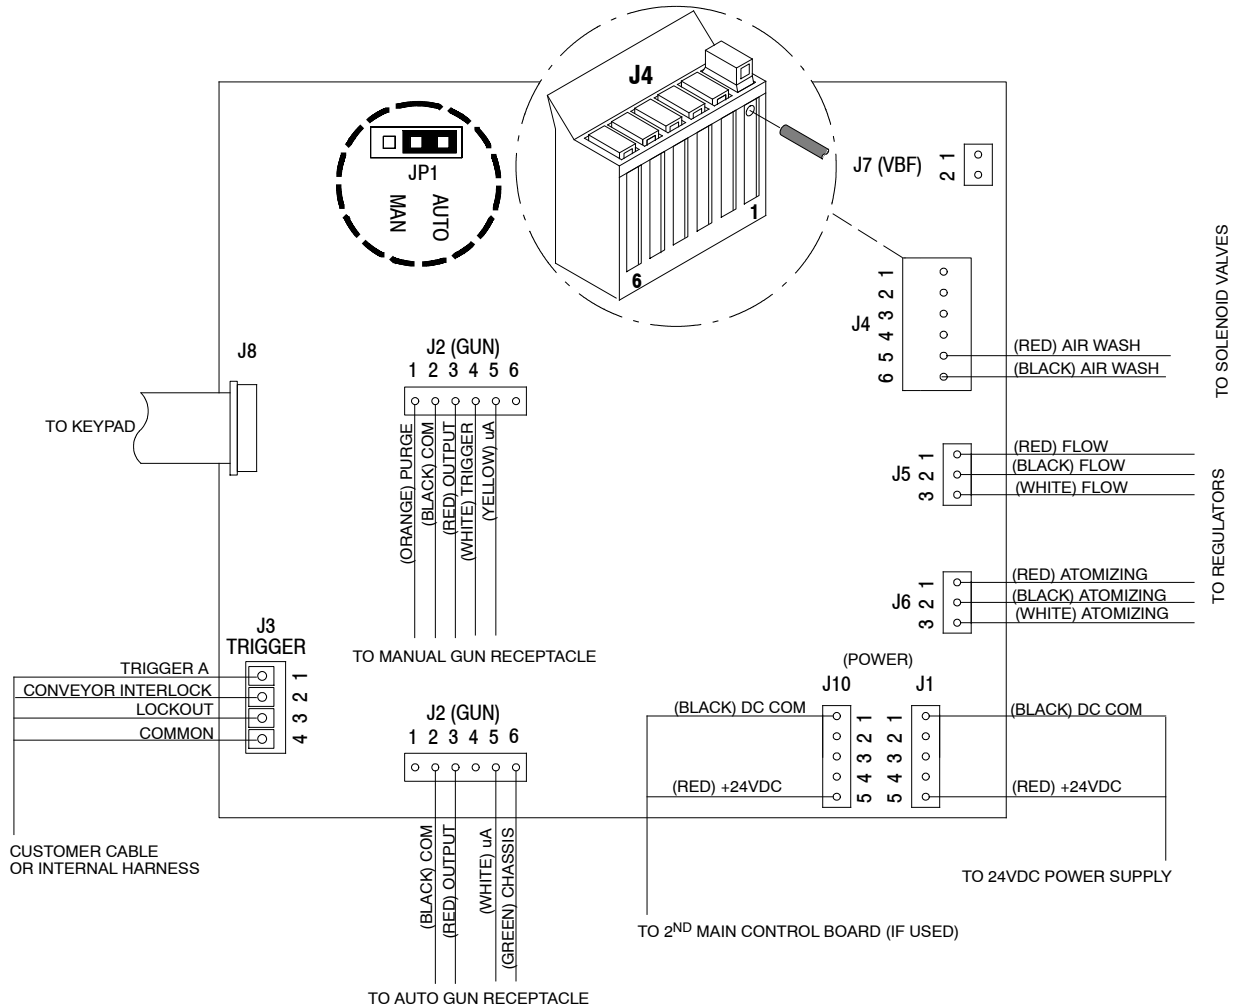

Figure 4 Main Control Board JP1 Jumper Setting and Electrical Connections
10. See Figure 4. Connect the harness and cables to the board. Connect the solenoid wires to the J4 connector as follows:
- b. Insert the unstripped solenoid valve wires into the holes in the side of the tabs as shown in Figure 4.